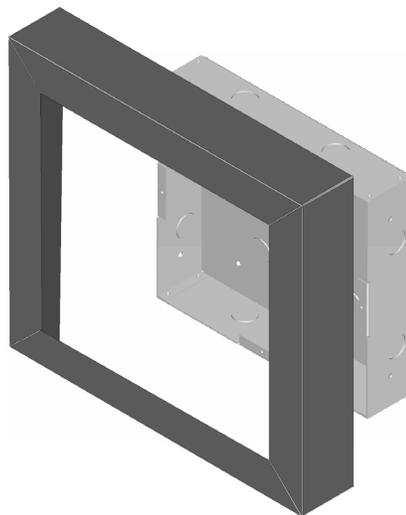

Figure 4-21 Installing Trim Ring
4. Place the trim ring over the back box as shown in Figure 4-21.